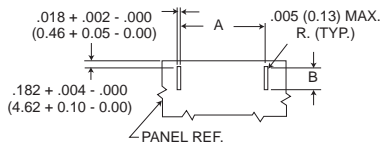

Figure 4 Edgeboard Mounting
(see Figure 4)
3. Figure 4 is for edge board mounting bracket or edgeboard clip assembly. The .184 + .002 (2.67 + .05) dimension locates the MD socket insulator flush with the end of the board.